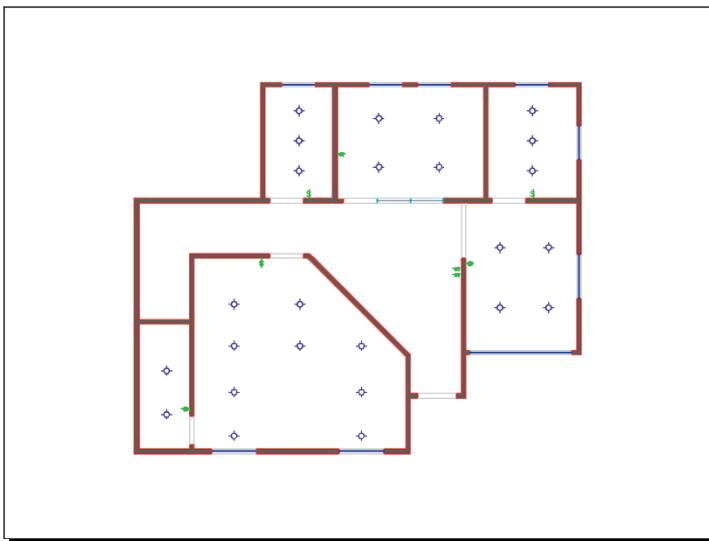

FIGURE 14.22 Previewing Layout2
- Double-click outside the viewport on the drawing canvas to return to paper space. Open the Application menu, choose the Print category, and then click Plot. Click the Preview button to open a preview window (see Figure 14.22).